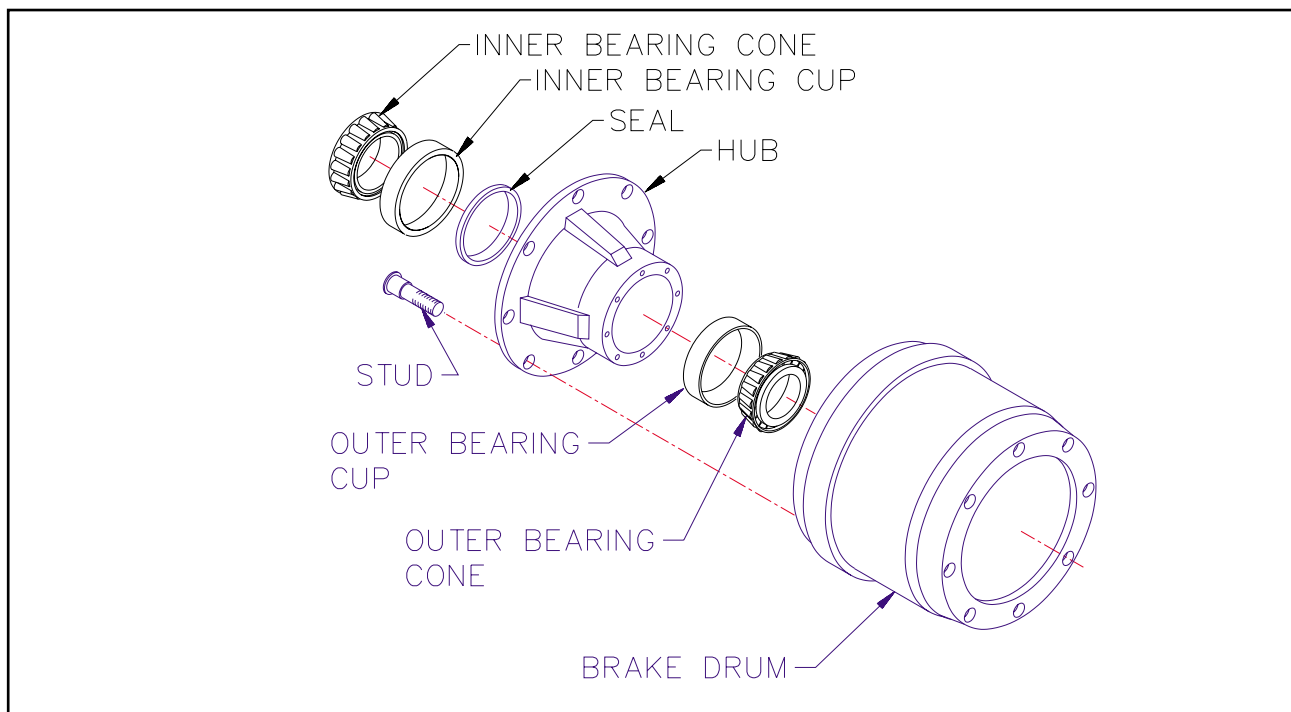

Figure 4-5 Hub and Drum Assembly
3. Remove drum assembly (See Figure 4-5).
- 4-7.4** Replace the hub and drum as follows (See Figure 4-5):